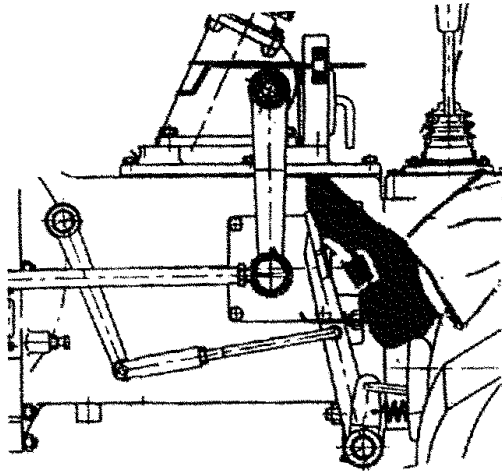
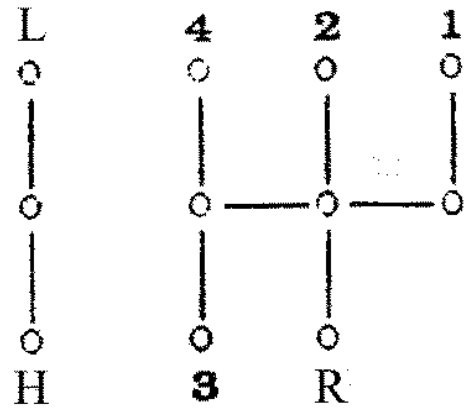

Fig.4-9 Separating the Clutch
Fig.4-10 Gears of the Main and Auxiliary Gearshift Levers
- (1) The starting can not exceed 15 seconds. The engine can be restart 2 minutes later to protect the battery and the starter. If the engine can not be continuously started for three times, it is recommended to find out the reasons before other restartings.
- (2) Keep the engine in idle running at the speed of about 600r/min.for several minutes after the starting. The tractor permits to be started off only on the condition that the oil pressure has reached a certain value (0.2--0.5Mpa) and the water temperature has been increased.
- (3) To keep the engine easily started in Winter, pour hot water (80--90 °C) into the radiator and switch on the water tap of the engine. Switch off the water tap when the draining water temperature is about 40--50 °C , and at the same time, pour the warmed oil (60--70°C) into the engine (after the cold oil has been drained out.).
- b. When the engine runs at low speed, step down the clutch pedal to the end, and put the main and auxiliary gearshift levers to the required gears.(see Fig.4-9 and 4-10).
- b. When shifting gears, first of all, step down the clutch pedal to have the clutch disengaged (see fig.4-9). After the tractor stops the gearshift lever of the gearbox should be smoothly put to the required gear positions. If the required gear can not be reached, engage and disengage the clutch again to get the gear. The gear shifting position of gearbox is shown in Fig.4-10.